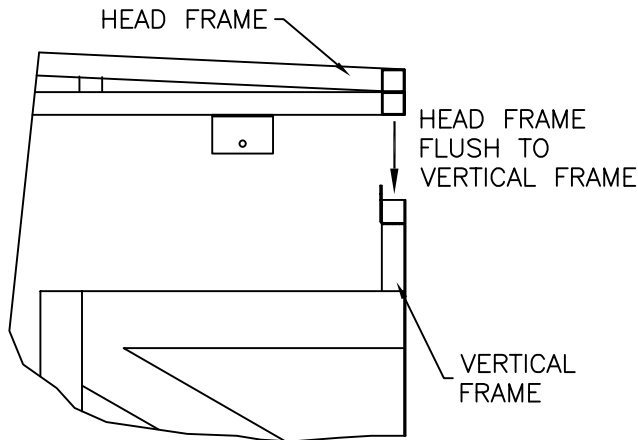

FIG. 13
- Set Head Frame on outside of left and right Angle Brackets (**Figure 13**).